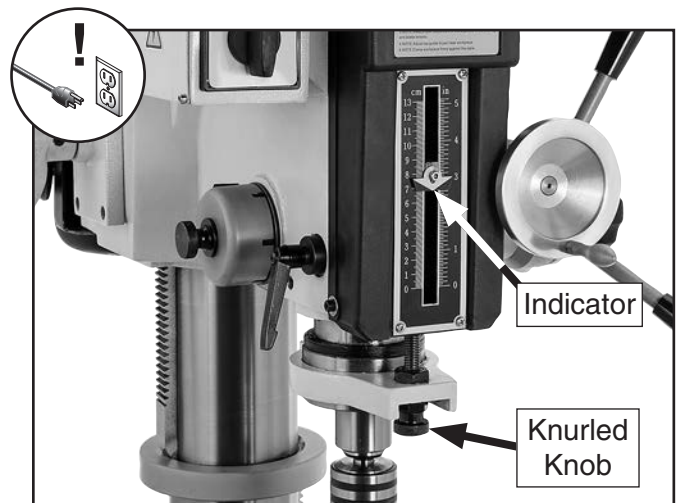

Figure 21. Depth stop controls.
4. Rotate knurled knob (**Figure 21**) until top of indicator is level with desired depth as listed on scale.